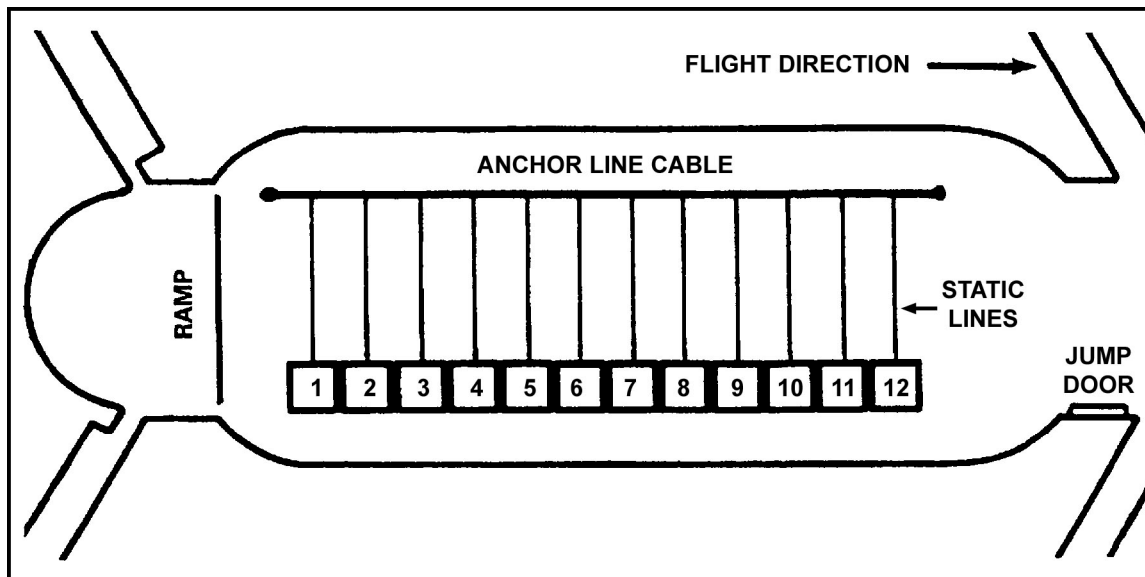

Figure 18-9. CH-46 ramp jump.
(2) *STAND UP.* Parachutists stand up and move to the port side (Figure 18-9).